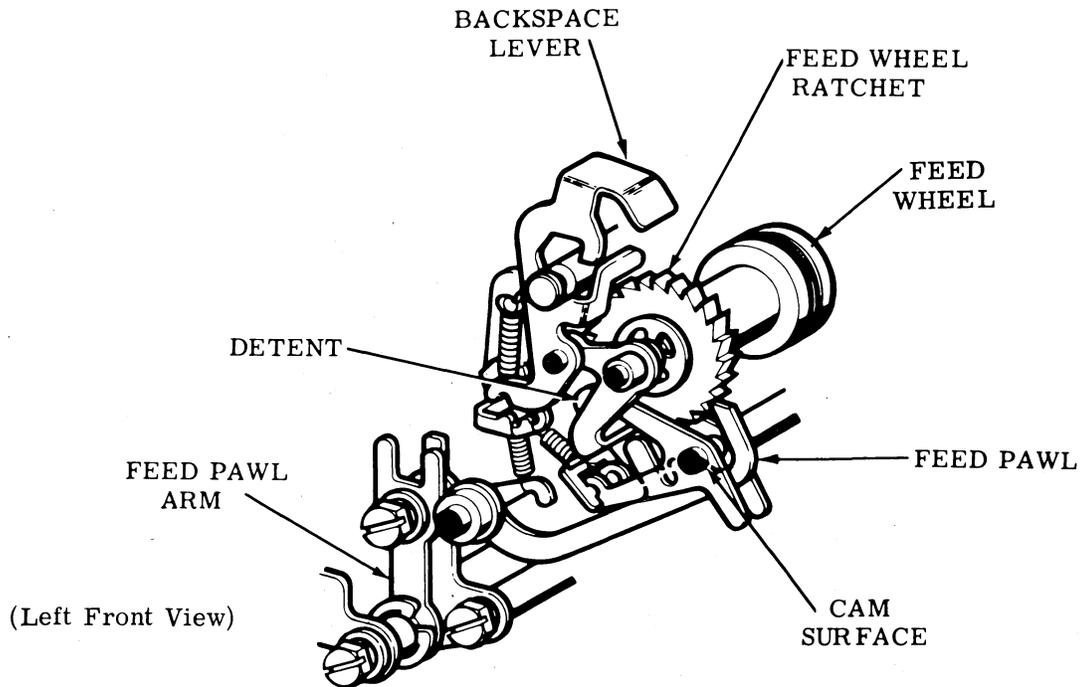

Figure 5 - Feed Wheel Mechanism (Tape Feed Mechanism)
4.15 As the drive link moves to the rear, the feed pawl engages a tooth on the feed wheel ratchet (Figure 5). When the drive link completes its travel to the rear, the